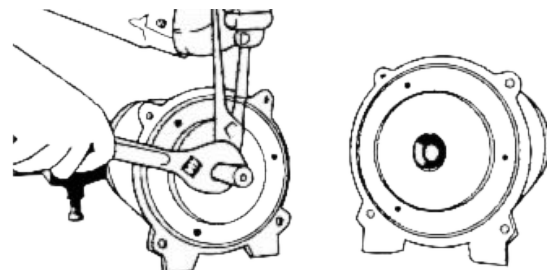

Figure 22: Remove Venturi
4. On 1/2 HP models, hold impeller with pliers and unscrew venturi tube. On 3/4 and 1 HP models, venturi tube is screwed into the pump case (Figure 22).